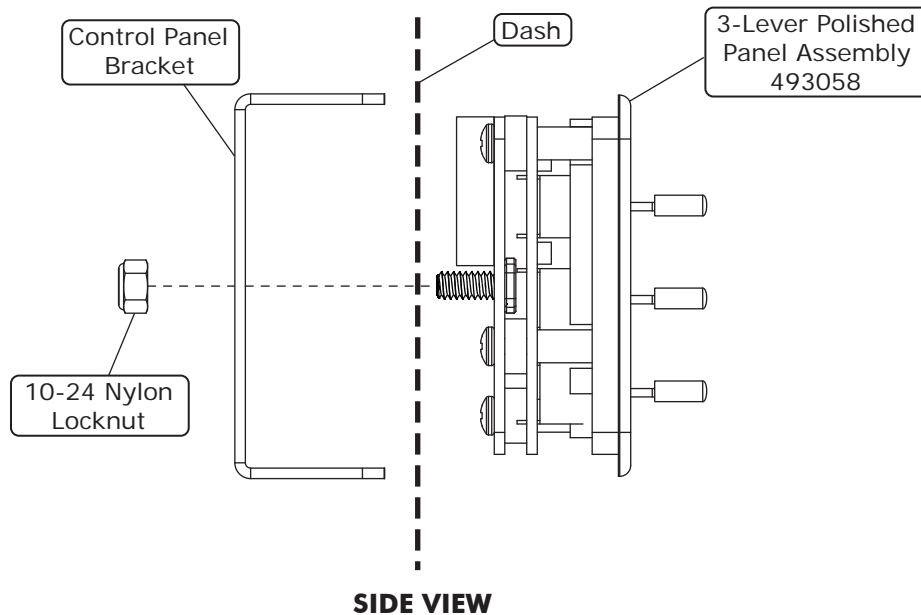

Figure 1
1. Install the 3-lever panel assembly into the dash by placing the control panel bracket behind the dash and securing it to the 3-lever panel assembly using a 10-24 nylon locknut (See Figure 1, below).